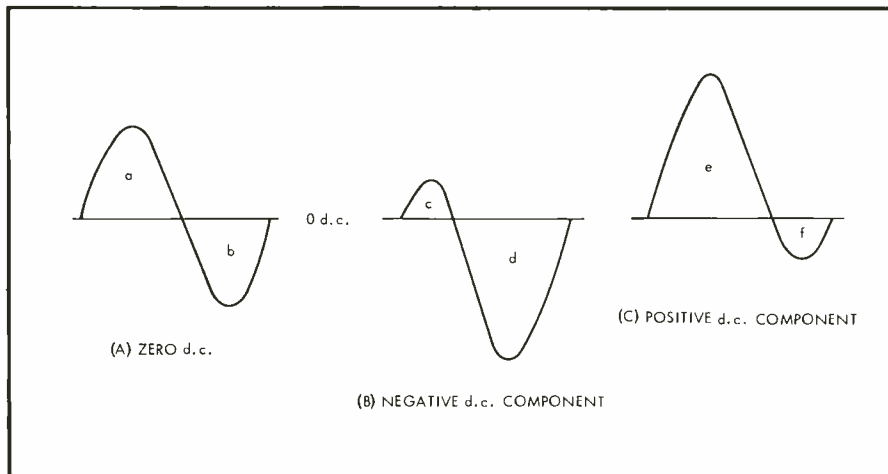

Fig. 9. Comparison of d.c. levels helps in identifying the order of harmonic distortion.
positive d.c. component exists in (c) of Fig. 9, for the size of e is greater than that of f . Actually, all three curves are identical. Only the placement of the zero axis line determines if d.c. components will be present in the mathematical analysis. It simplifies matters considerably if the axis is chosen so that no d.c. will be present and the analysis can be completely accomplished with Eq. (7).